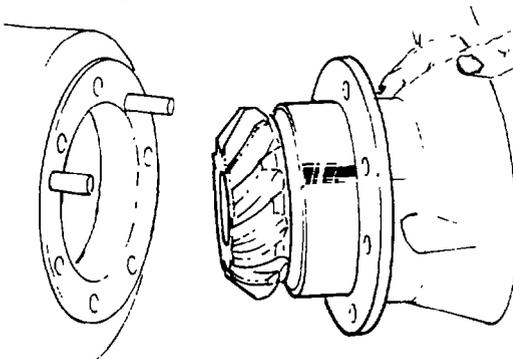

Fig. 272 — Removing Bevel Pinion Housing
- l. Using two 5/8 in. — 11 UNC bolts, remove the bevel pinion housing (see fig. 272) by inserting the bolts in the threaded holes in the pinion housing and turning the bolts evenly and alternately. Wire the shims together and tag for re-use at reassembly.